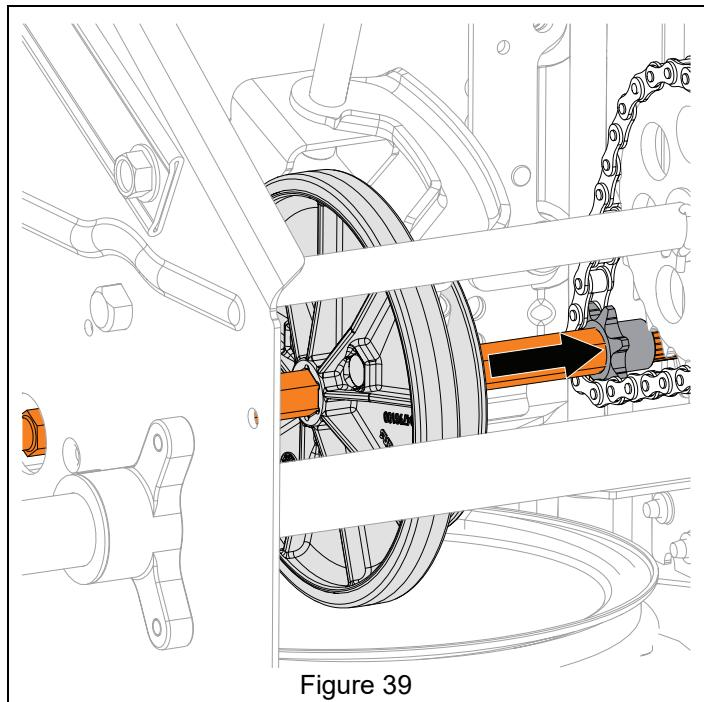

Figure 39
2. Insert hex shaft through friction disc, pinion sprocket and right side of frame. See Figure 39.